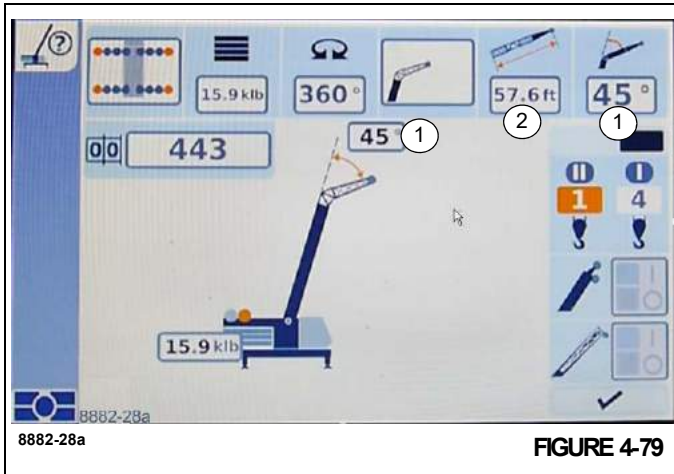

FIGURE 4-79
- **Lifting/Lowering Lattice Extension:** Shows the current lattice extension angle (1), (Figure 4-79) in relation to the main boom in degrees.
- **Lattice Extension, Can be Angled:** Shows the angle of the lattice extension corresponding to the RCL code in degrees (1), (Figure 4-79).
Shows the current lattice extension length (2), (Figure 4-79) in meters (m) or feet (ft).